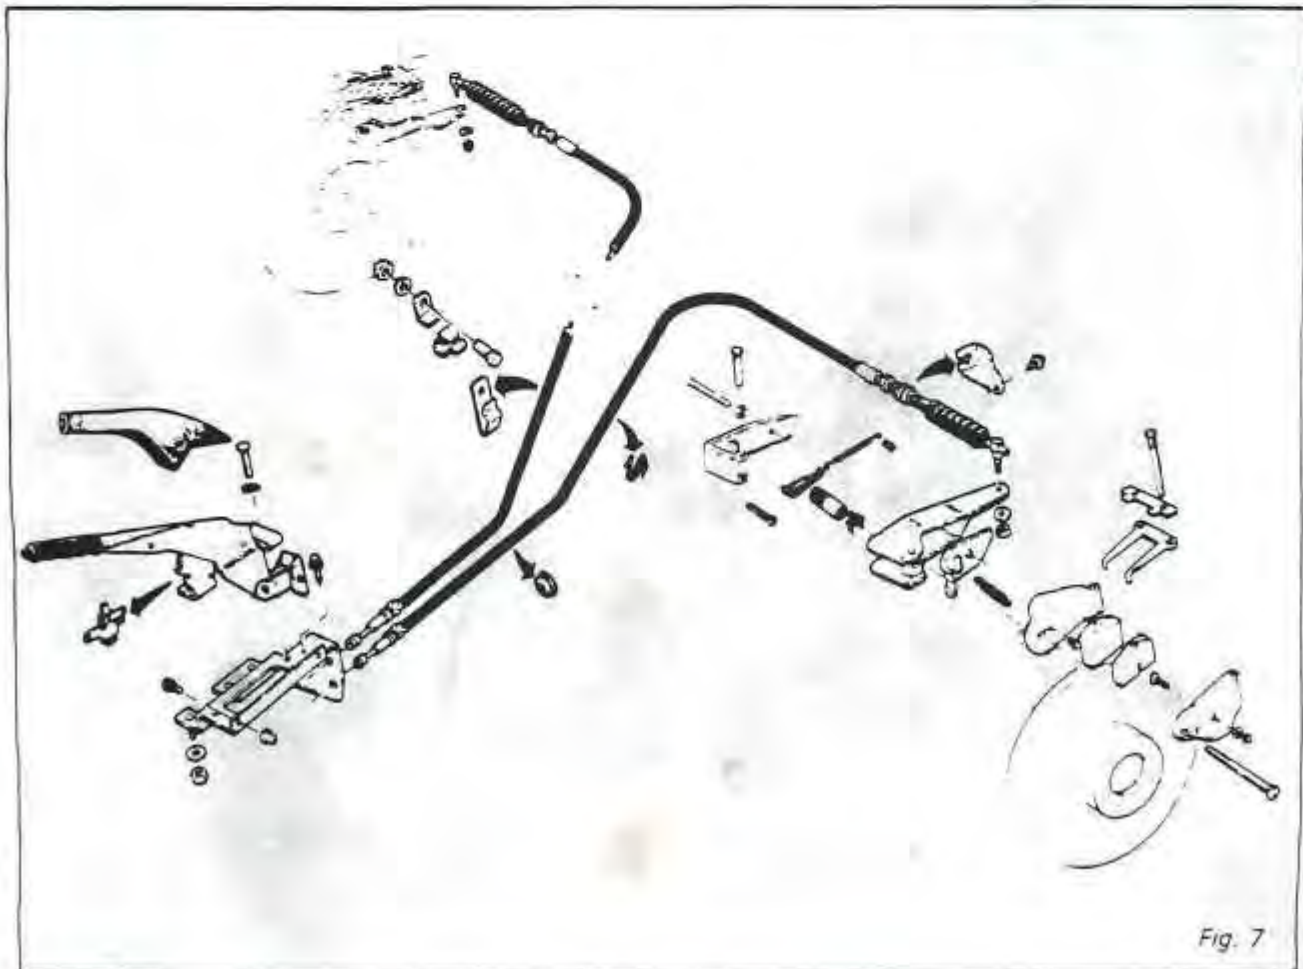

Fig. 7
3. Disconnect park brake cable from park brake caliper lever arm by removing backing off locknut. (Fig. 7)